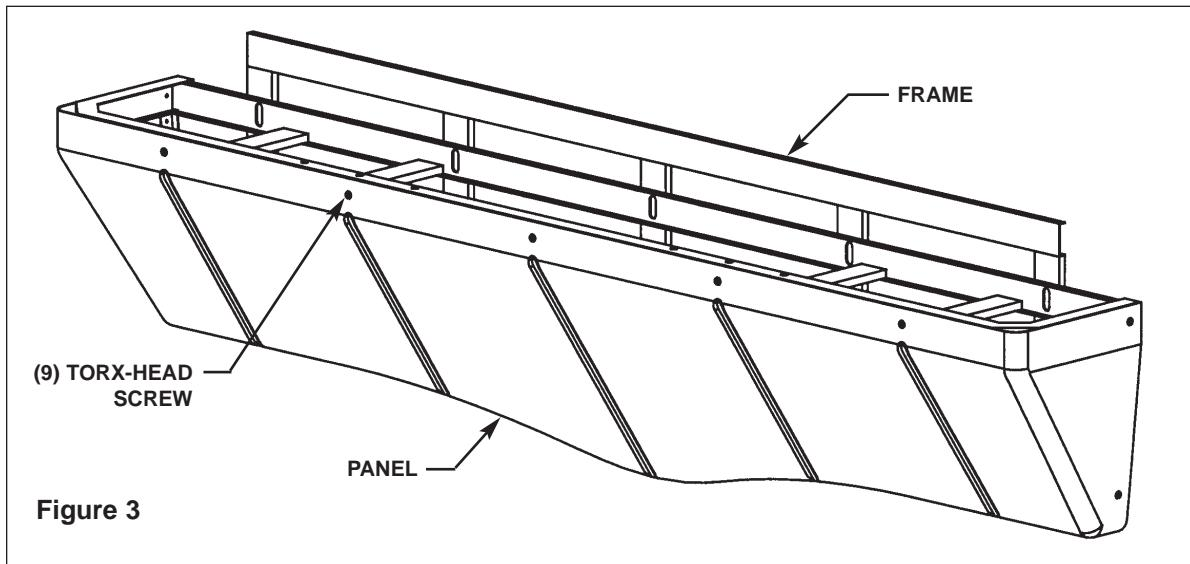

Figure 3
1. Remove the nine Torx-head screws securing the panel to the frame, and remove the panel (see Figure 3).